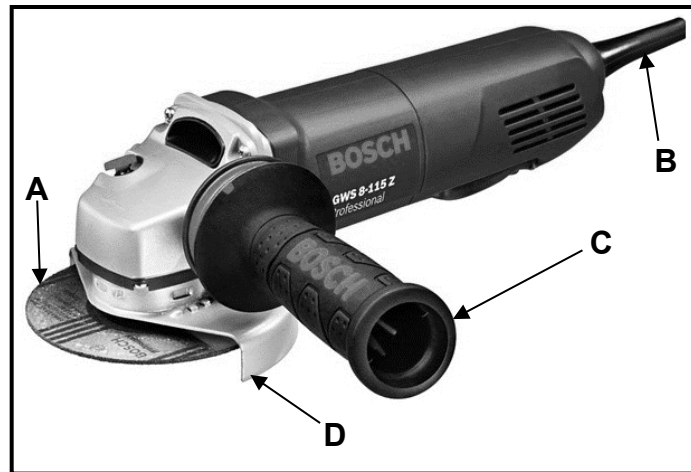

FIGURE 6.1
6.1 FIGURE 6.1 below shows a portable angle grinder. Label **A–D**.